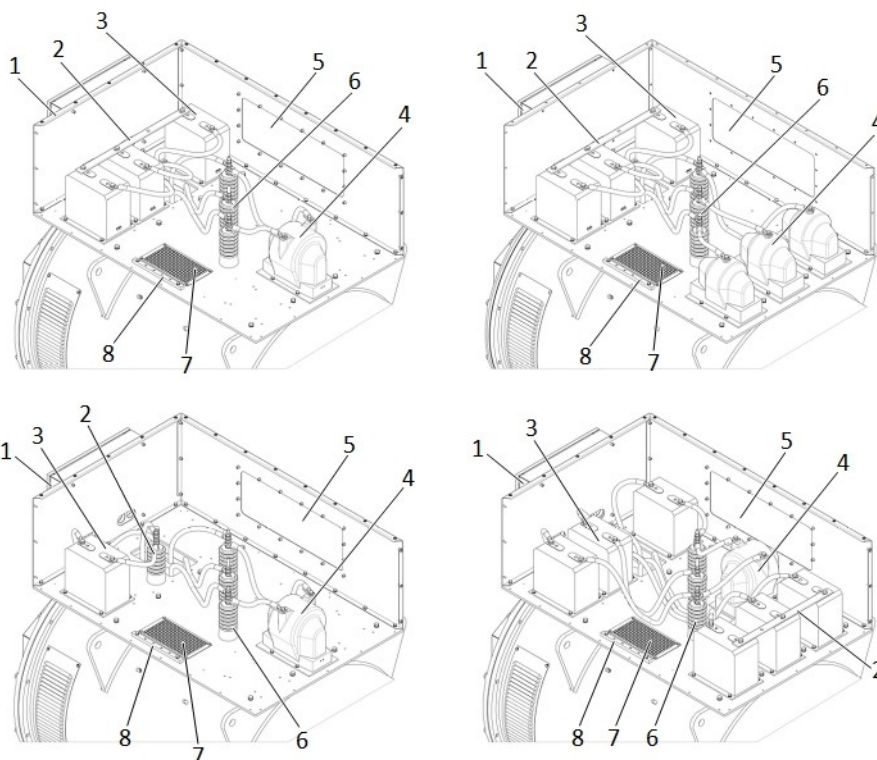

Figure 15- ECO47 terminals box
Connect the alternator to the utility, making reference to Figure 15- and Figure 16- .
- 3- Current sensor (TA)
- 4- Voltage sensor (TV)
- 6- Phases connection terminals (U-V-W from left to right in Figure 15- and Figure 16- )